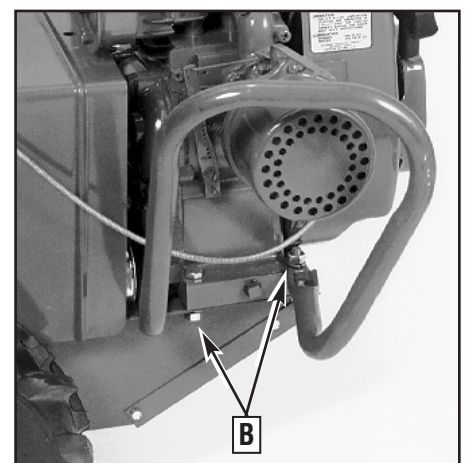

Figure 3: Remove engine mounting screws (B) from right side.
3. Observe the "CAUTION" statement above and remove the four screws (B, Figures 3 and 4), lock washers and hex nuts that secure the engine to the left and right side engine support brackets. Do not save the hardware.